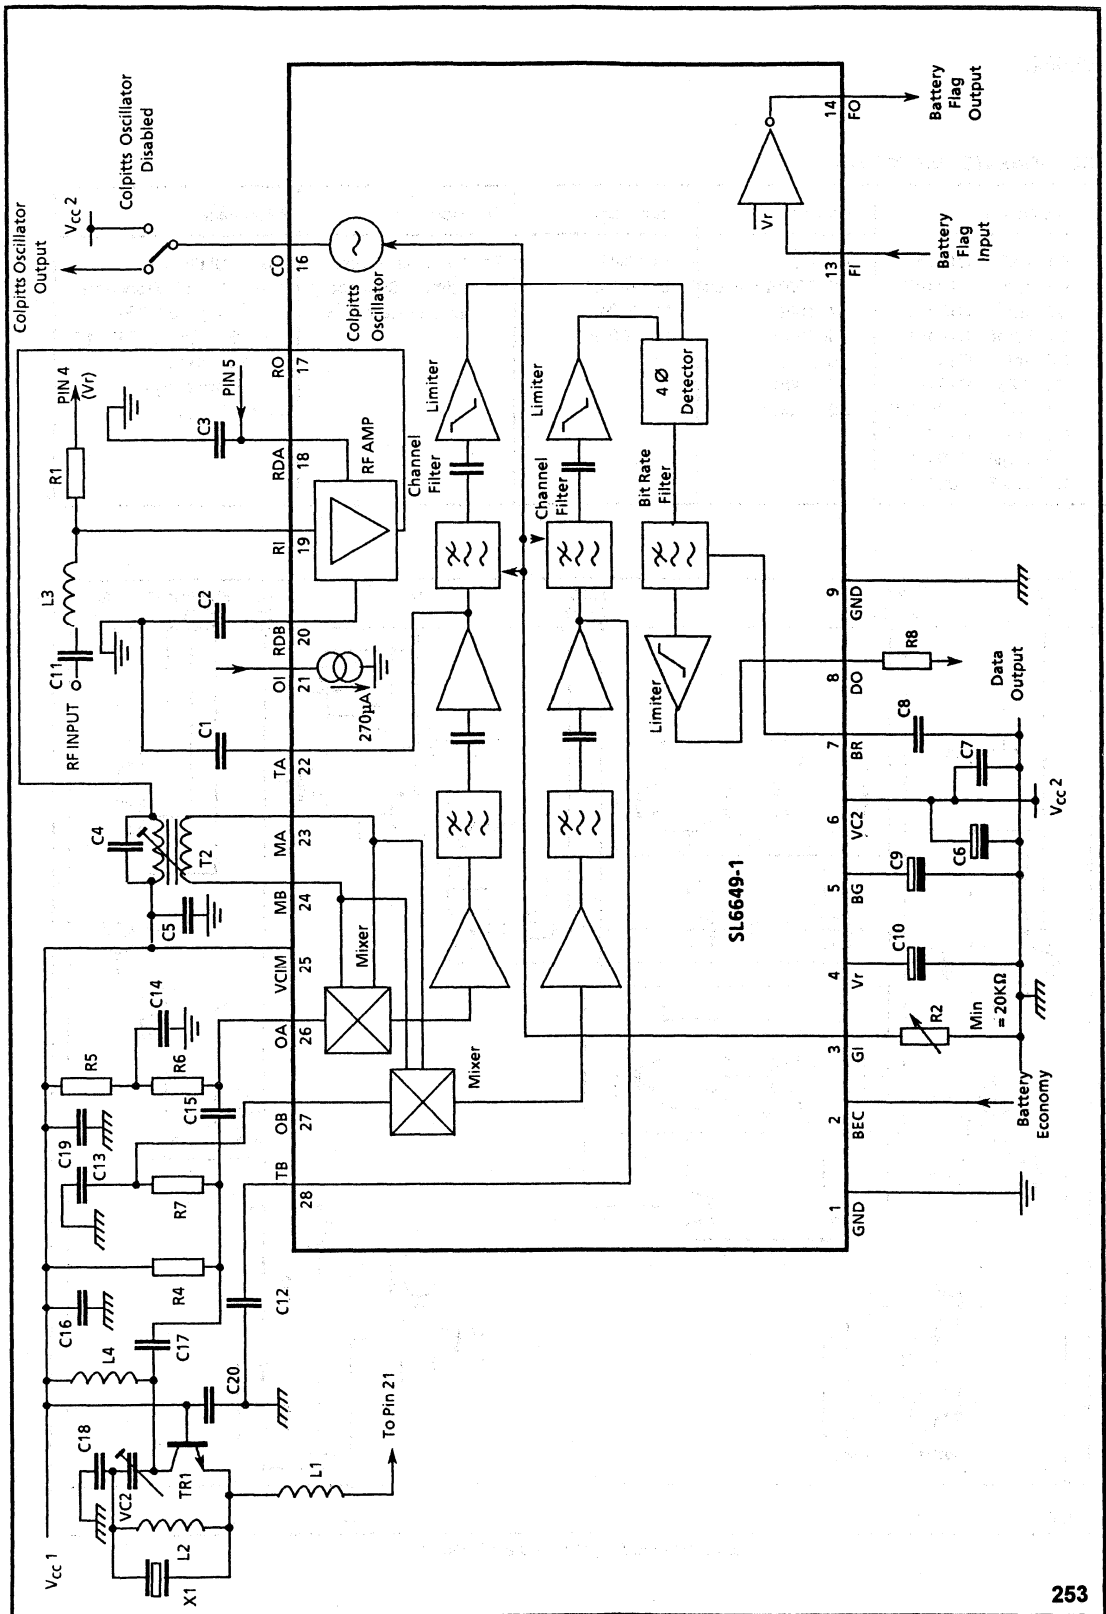

Fig. 6 Block Diagram and Applications Circuit (for component values see page 6)
**Measurement conditions (unless otherwise stated):** Applications circuit diagram Fig.6;  $V_{CC1} = 1.3\text{V}$ ;  $V_{CC2} = 2.3\text{V}$ ;  $T_{amb} = 25^{\circ}\text{C}$ ; ; Colpitts oscillator resistor = 270k $\Omega$ ; mixer input A and B phase balance = 180 $^{\circ}$ ; local oscillator input A and B phase balance = 90 $^{\circ}$ . Measurement methods as described by CEPT Res 2 specification.  $F_{IN} = 153\text{MHz}$  (512 baud)
COMPONENTS LIST FOR FIG.6